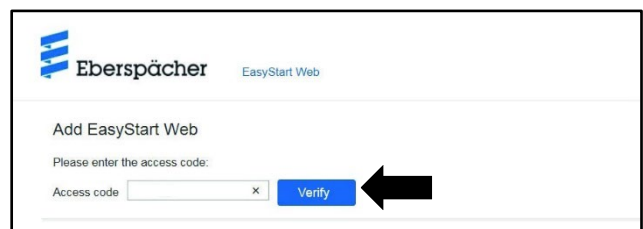

Figure 8
8. Enter the access code and click “Verify” (refer to Figure 8).